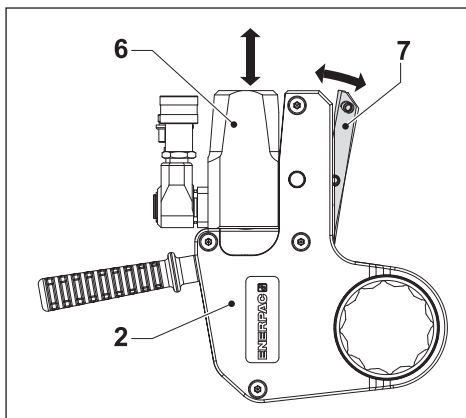

Fig. 4
3.3.1 To Remove the Cassette (Fig. 4 and 5)
3.3.2 To Attach the Cassette (Fig. 4 and 5)
- Pull the release lever (7) outwards.
- Be sure the retract link (11) aligns with the slot (13) in the ratchet lever. Rotate the piston rod if necessary.
- Slide the drive unit onto the cassette and push the spigot (12) through the opening in the drive unit locating plate (14).
- Push the release lever (7) back into the cassette (2). Be sure the ball detent clicks into place. Check that cassette release lever is fully closed.